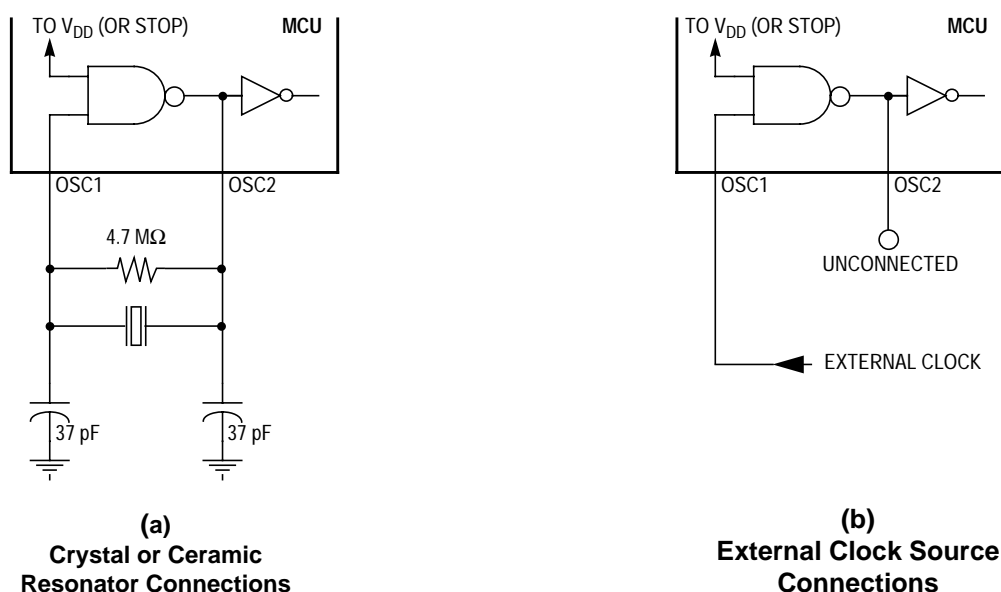

Figure 1-3. Oscillator Connections
- A crystal as shown in Figure 1-3\(a\)
- A ceramic resonator as shown in Figure 1-3\(a\)
- An external clock signal as shown in Figure 1-3\(b\)
The circuit in Figure 1-3\(a\) shows a typical oscillator circuit for an AT-cut, parallel resonant crystal. Follow the crystal manufacturer's recommendations, as the crystal parameters determine the external component values required to provide maximum stability and reliable startup. The load capacitance values used in the oscillator circuit design should include all stray capacitances.
In cost-sensitive applications, use a ceramic resonator instead of a crystal. Use the circuit in Figure 1-3\(a\) for a ceramic resonator and follow the resonator manufacturer's recommendations, as the resonator parameters determine the external component values required for maximum stability and reliable starting. The load capacitance values used in the oscillator circuit design should include all stray capacitances. Mount the resonator and components as close as possible to the pins for startup stabilization and to minimize output distortion.
An external clock from another CMOS-compatible device can be connected to the OSC1 input, with the OSC2 input not connected, as shown in Figure 1-3\(b\).